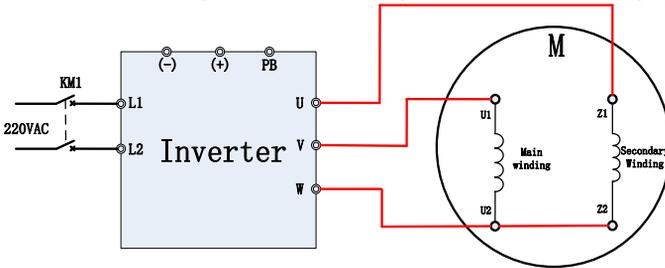

Fig 6-18 VSS ($\leq 0.75kW$) connect to single phase motor
- VSX($\leq 0.75kW$) connect to single phase motor: Wiring of inverter forward running(figure 6-18):